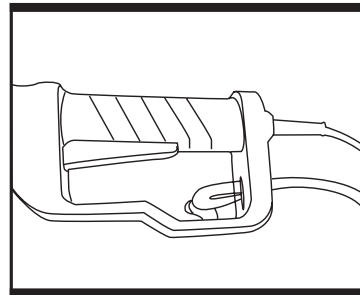

Fig. 3
2). For tension relief of the cable, form a loop of the end of the main cable and bring this through the opening at the handle and insert it into the cord strain relief (12). (See Fig.3)